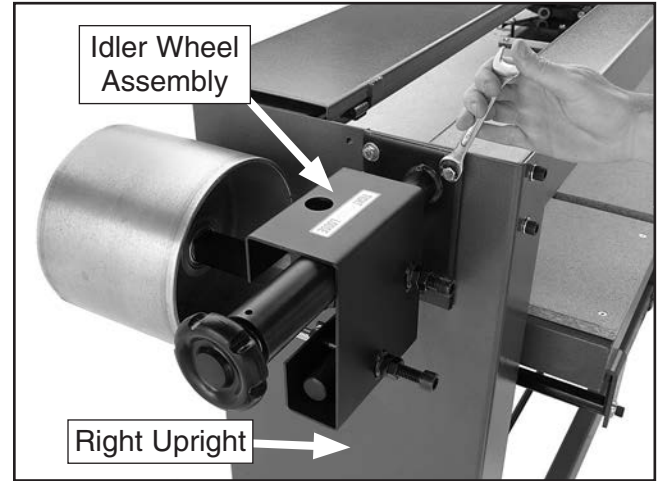

Figure 19. Idler wheel assembly.
12. Connect the idler wheel assembly to the right upright with (4) $\frac{5}{16}$ "-18 x 1" flange bolts, as shown in **Figure 19**.